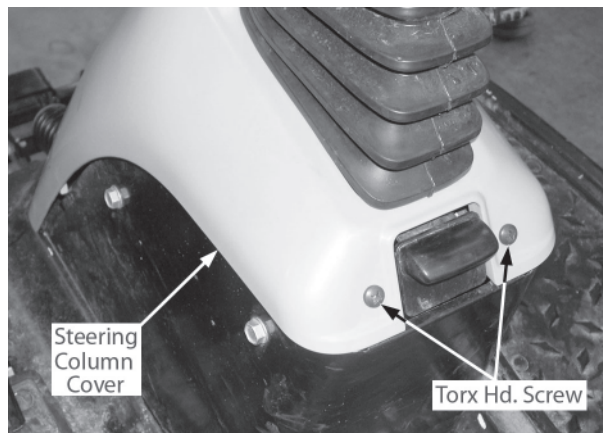

Figure 7-13
- Remove the two torx head screws from the top rear of the steering column cover. See Figure 7-13.